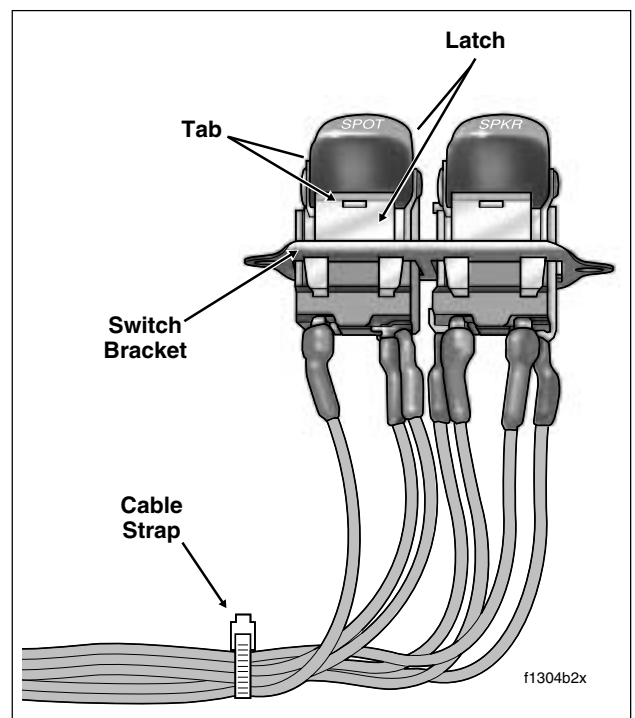

Figure 8-76. Bend Latches Outward to Release Tabs
- Gently pry two latches on bracket outward to release tabs on switch. Remove switch from bracket. See Figure 8-76.